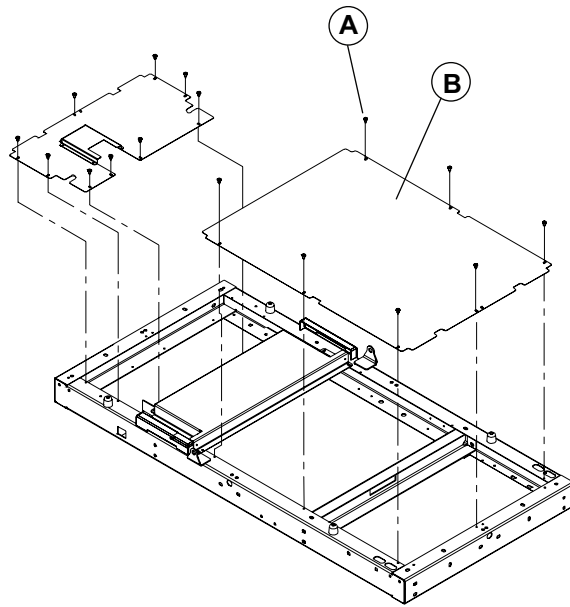

Figure 16 – Foot cover removal
4. Using a #2 Phillips screwdriver, remove the seven screws that secure the foot cover plate to the litter frame (Figure 16). Remove and save the cover plate. Save the screws.
3. Using a #2 Phillips screwdriver, remove the seven screws (A) that secure the foot cover plate (B) to the litter frame (Figure 16). Remove and save the cover plate. Save the screws.
3. Using a #2 Phillips screwdriver, remove the seven screws that secure the foot cover plate to the litter frame. Remove and save the cover plate (Figure 16). Save the screws.
5. Using a #2 Phillips screwdriver, remove the nine screws that secure the protective plate to the litter frame (Figure 16). Save the screws.
4. Using a #2 Phillips screwdriver, remove the nine screws that secure the protective plate to the litter frame (Figure 16). Remove and save the protective plate. Save the screws.